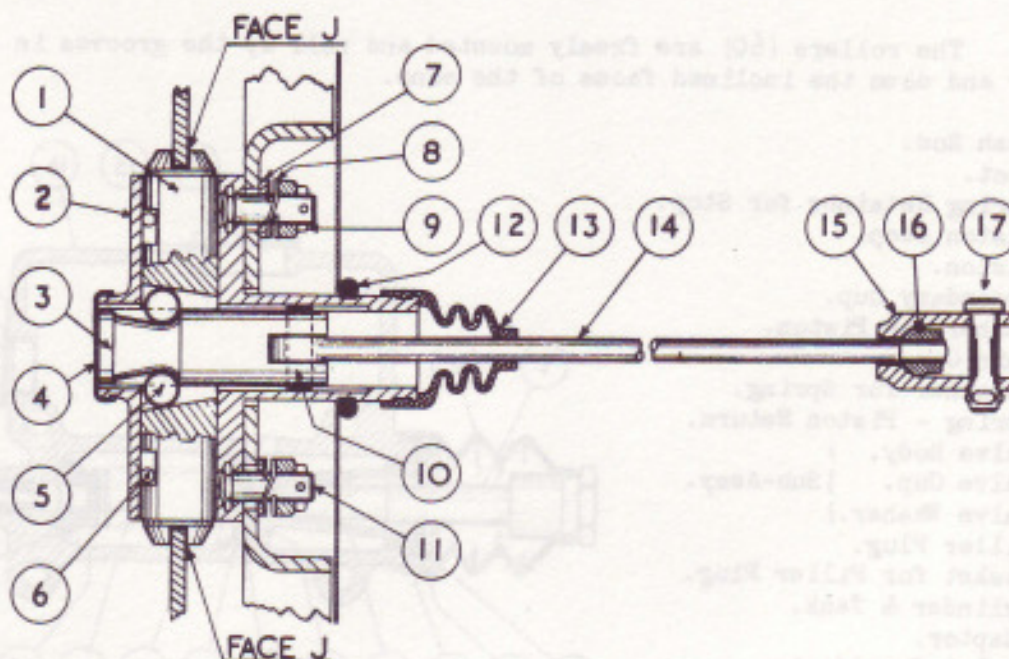

FIG. 4. SECTION THROUGH REAR EXPANDER.
The rear brake shoes are mechanically operated by an expander unit, which is slidably attached to the brake carrier plate. The expander cone (3) Fig. 4 which is actuated by the pull rod (14) causes the plungers to move outwards. Hardened steel rollers (5) are interposed between the cone and the plungers to reduce friction to a minimum. The plungers engage directly with the brake shoe webs.